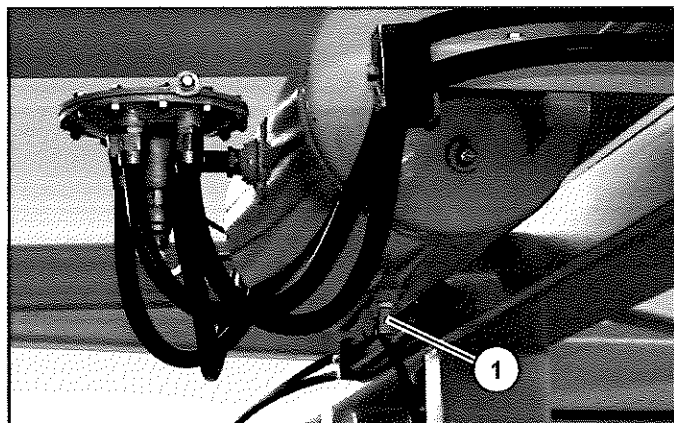

Figure 12
4. Release the air brakes by adjusting the air valve (Item 1) (Figure 12) on the bottom of the tank. The air brakes cannot be applied when raising and lowering the conveyor.